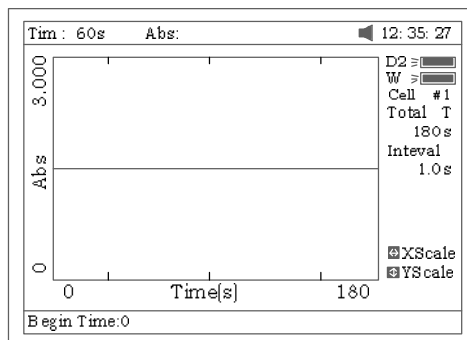
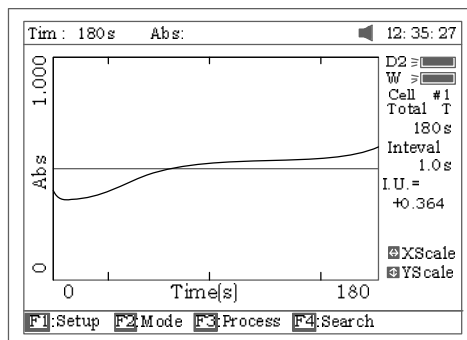

Fig 57
Fig 58
5. Press **[F3]** to process the data, and enter "Begin Time", "End Time" and "Factor" (Fig 57) and the value in I.U. will be calculated and displayed (Fig 58). The average straight line between the Begin Time and End Time will be calculated. The gradient of this line gives the rate of change of ?A/min.